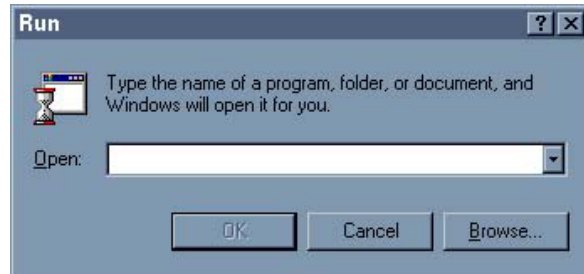

Figure 3-4
2. Click on **Start→Run** (or **File→Run** if you are using Windows 3.x) to display the Run dialog box (Figure 3-4).